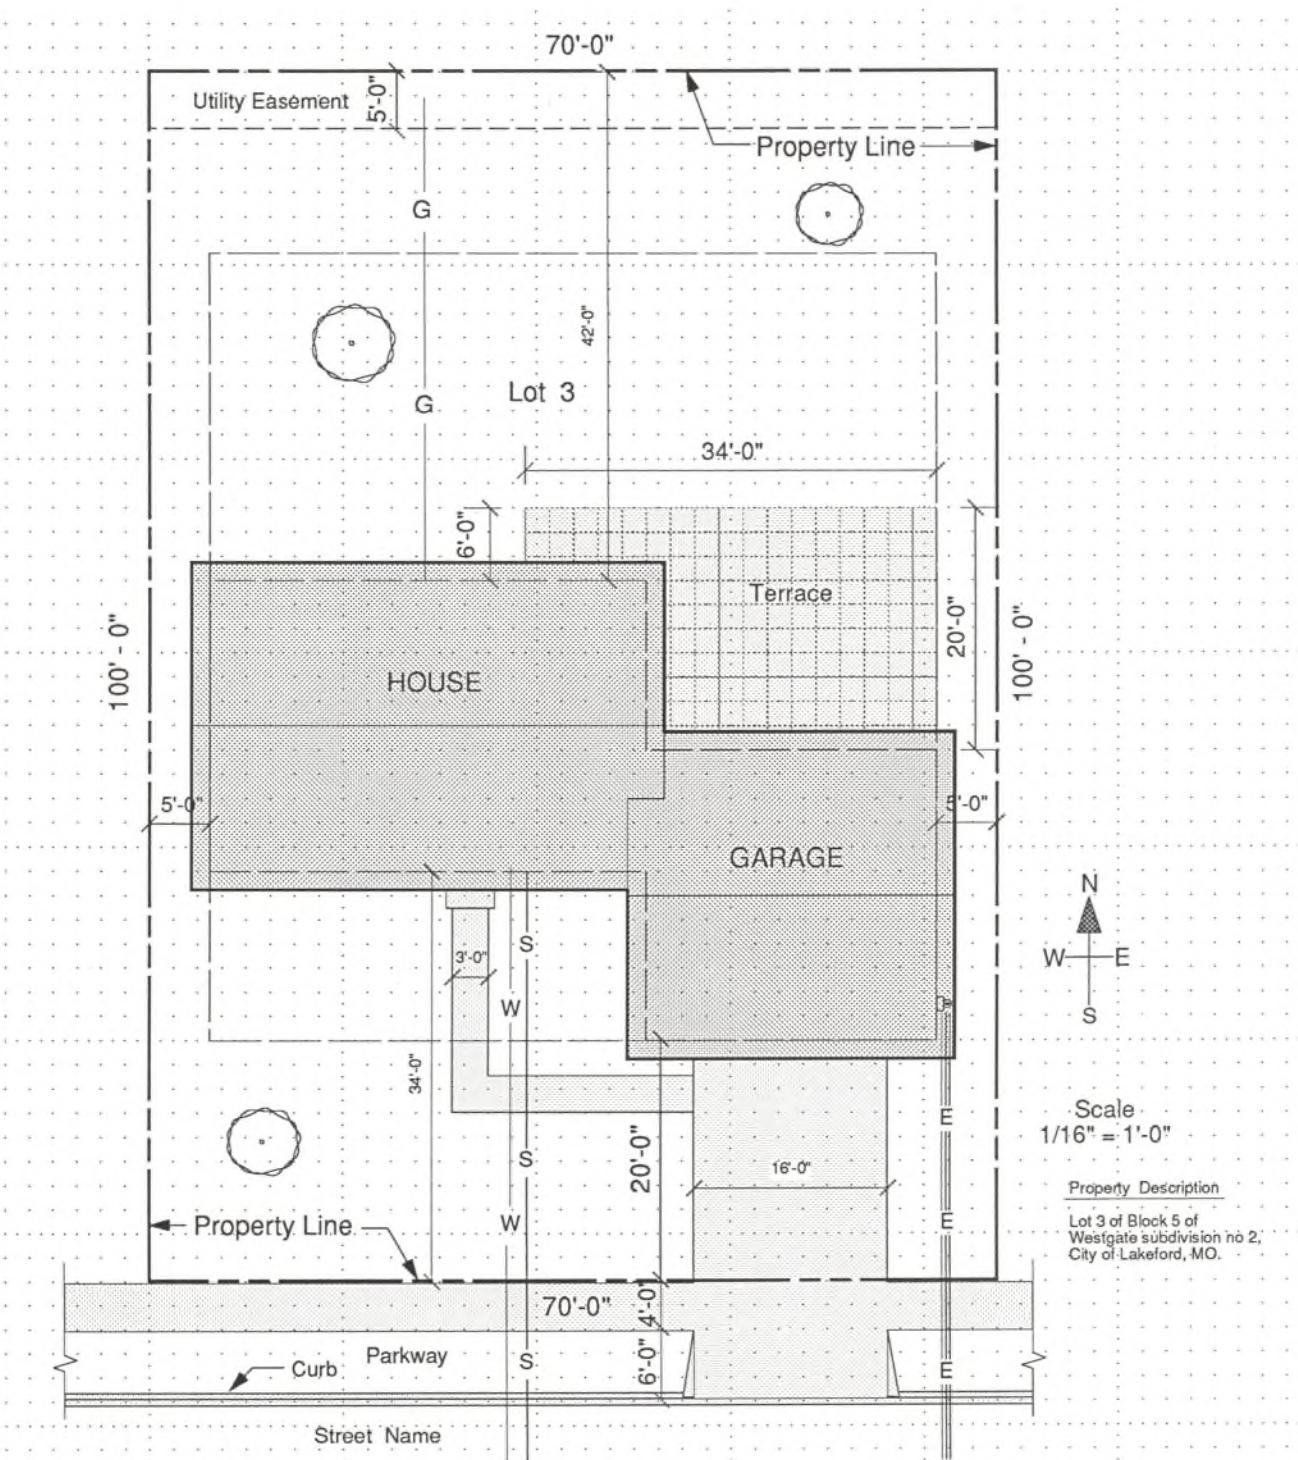

Fig. 26.5 An example of a completed plot plan.
5. Show existing walks and driveways, as in Fig. 26.5.
6. Locate sidewalks and curbs. (See Fig. 26.5.)
12. Check and compare your drawing with Fig. 26.5. This drawing is a completed plot plan for the book sample house.